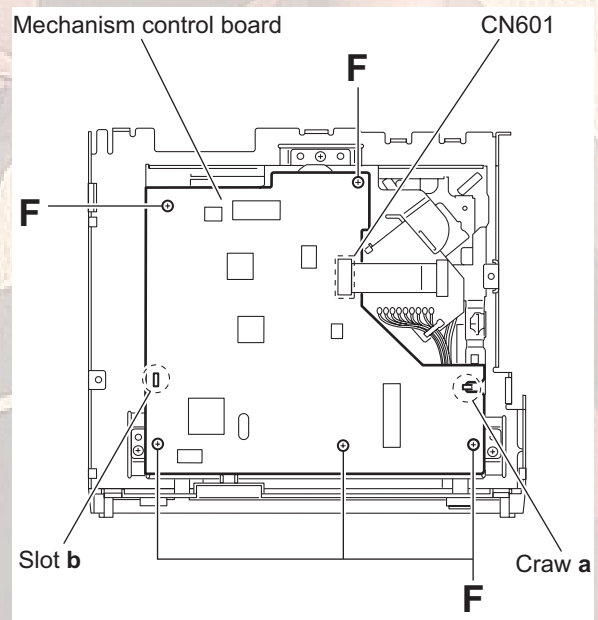

Fig.9
3.1.5 Removing the mechanism control board (See Fig.9)